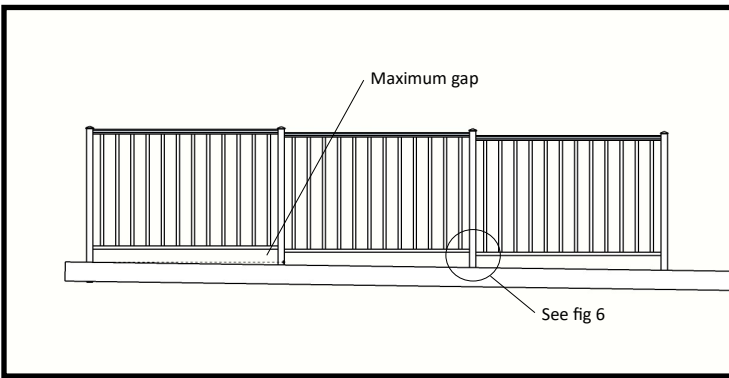

Fig 5
5. If you have a sloped surface, you will want to stagger the elevation of the fence modules to compensate for the difference in elevation from one module to the other while keeping the top rail level. (see fig 5) Make sure that the gap at the bottom never exceeds the maximum gap allowed by local codes. Also, you must keep this in mind when installing the posts to ensure you compensate with the post height.